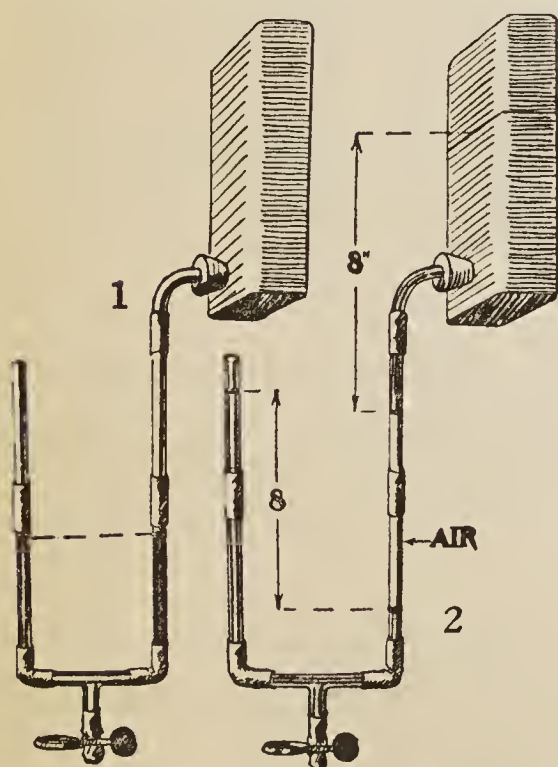

Fig. 121.—Illustrating an Air-Lock in Pipes
Use the apparatus, Fig. 121. In (1) the tank is empty and the U is half full of water. In (2) the tank is filled but the water does not run. It is air locked because the air permits the 8 inch head in the U to balance the 8 inch head at the tank.